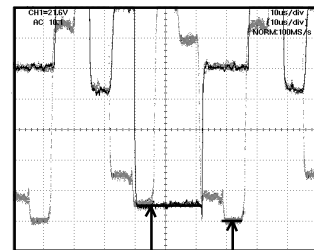

Fig. 2-4
7. Press the VOL. UP/DOWN button on the remote control until the red color level is adjusted to $115 \pm 10\%$ of the white level. (**Refer to Fig. 2-4**)